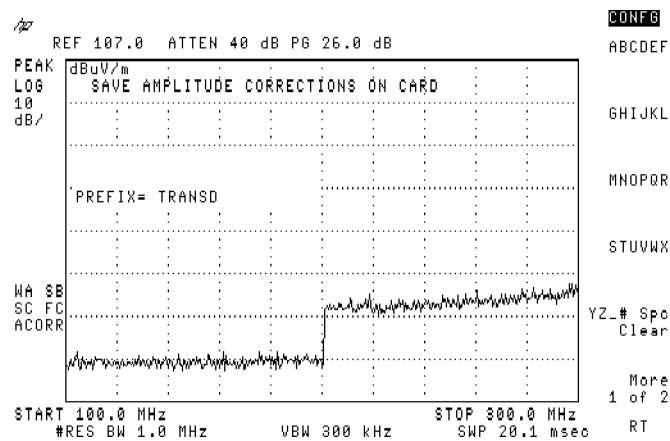

Figure 3-94. Changing the Prefix
3. Press **Change Prefix**. See Figure 3-94.